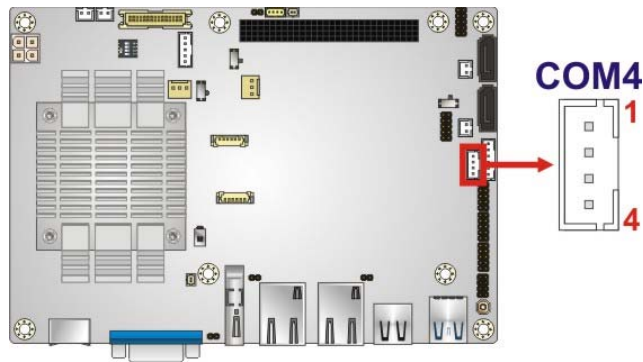

Figure 3-26: RS-422/485 Connector Location
- CN Location:** See **Figure 3-26**